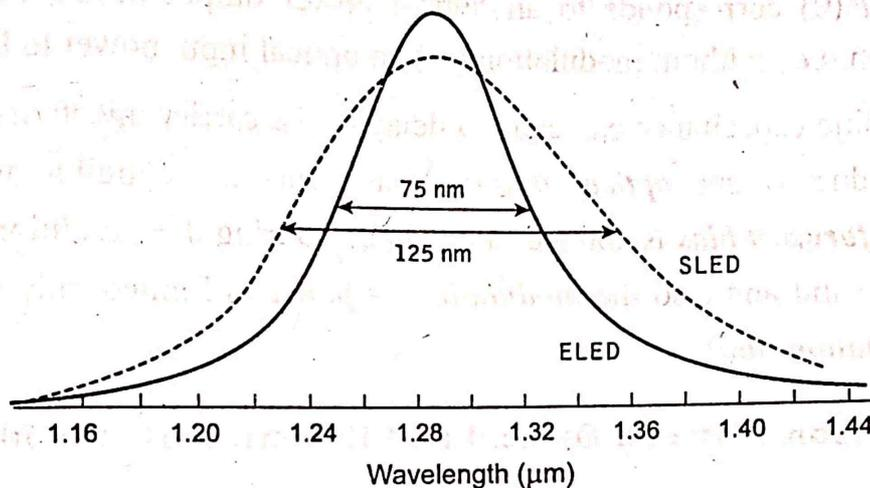

Fig 6.11 Typical spectral output characteristics for InGaAsP surface- and edge-emitting LEDs operating in the 1.3  $\mu\text{m}$  wavelength region
- The differences in the output spectra between InGaAsP SLEDs and ELEDs caused by self-absorption along the active layer of the devices are displayed in Fig 6.11. It may be observed that the FWHP points are around 1.6 times smaller for the ELED than the SLED.